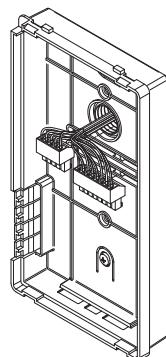
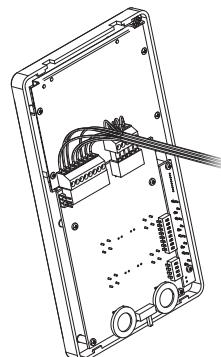

Fig. 7
Fig. 8
5. As shown in **Fig. 7**, connect the wires to the removable terminals following the provided installation diagram. Connect the terminal blocks to the electronics contained in the cover as shown in **Fig. 8**. Test system before closing.